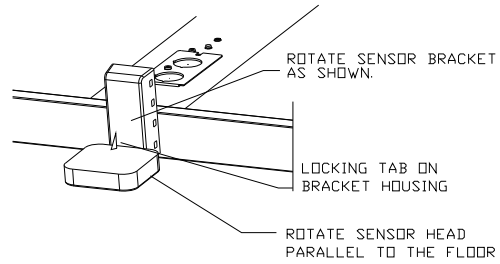

FIGURE 3:
- 6) Make sure the sensor bracket assembly is rotated in the position shown. SEE FIGURE 3.